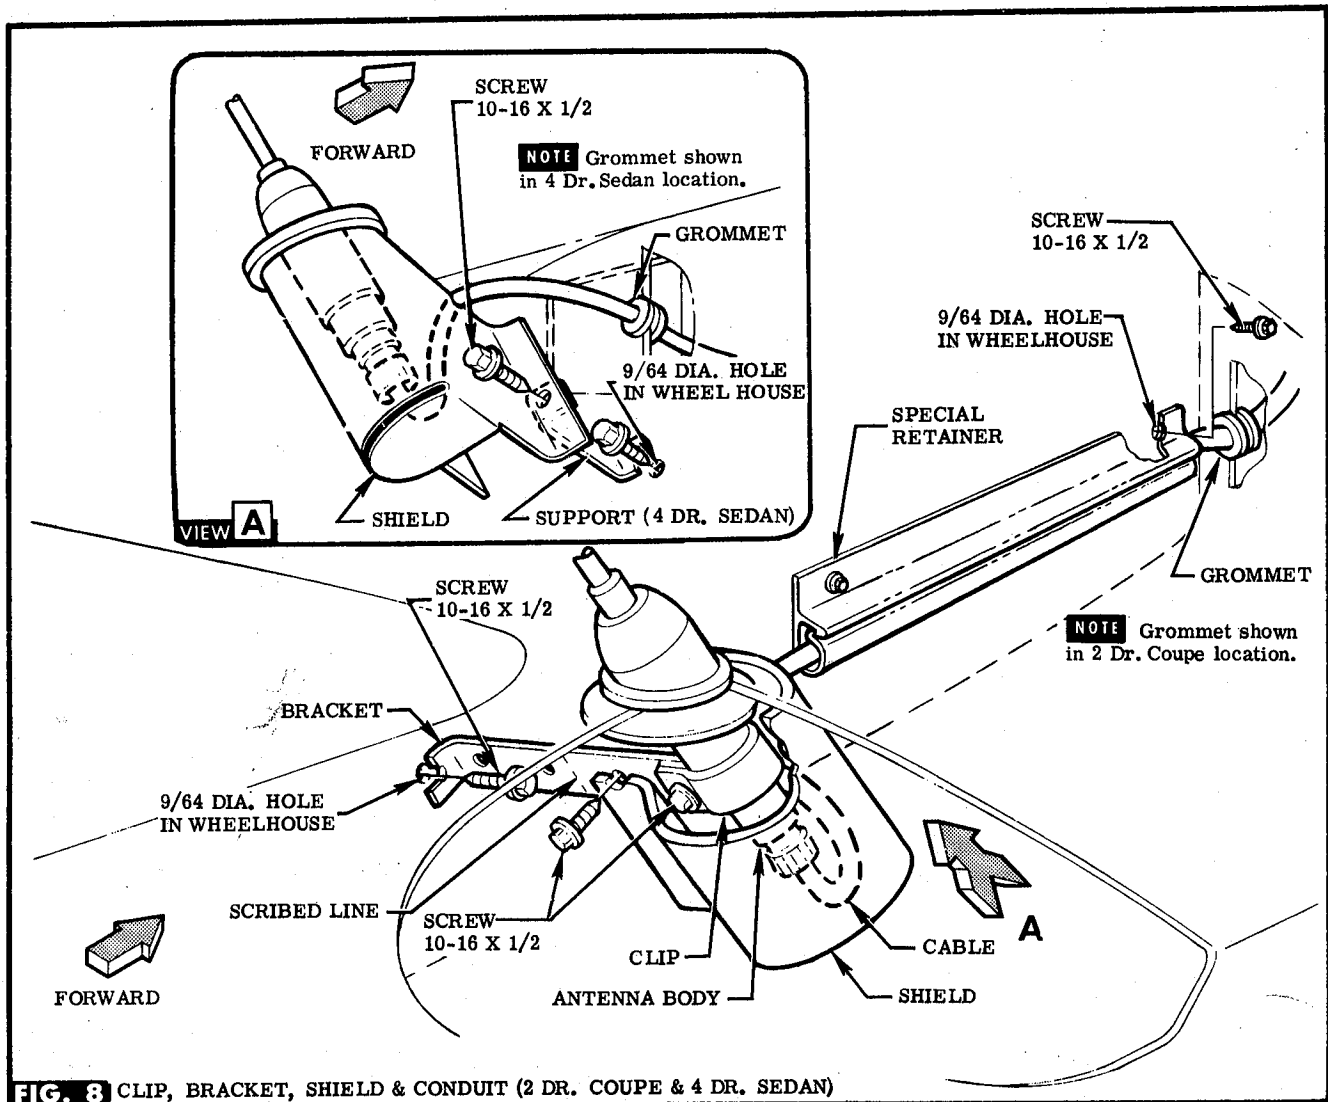

FIG. 8 CLIP, BRACKET, SHIELD & CONDUIT (2 DR. COUPE & 4 DR. SEDAN)
STEP 14 (4 DR. SEDAN) POSITION CLIP AROUND ANTENNA BODY. LOOSELY ATTACH BRACKET TO CLIP & SHIELD TO BRACKET WITH SCREWS. SEE FIG. 8.
STEP 15 (2 DR. COUPE) CUT OFF BRACKET AT SCRIBED LINE, DISCARD FLAT PORTION & USING REMAINING "L" SHAPED PORTION AS BRACKET, COMPLETE STEP 14. SEE FIG. 8.
STEP 17 (2 DR. COUPE & 4 DR. SEDAN) USING BRACKET AS TEMPLATE, CENTERPUNCH & DRILL HOLE IN WHEELHOUSE. SECURE BRACKET WITH SCREWS. APPLY BODY SEALER TO HOLE IN WHEELHOUSE. SEE FIG. 8.
STEP 19 (2 DR. COUPE) ROUTE CABLE OVER RECESS IN SHIELD. OPEN RETAINER, ROUTE CABLE THRU & CLOSE RETAINER. USING RETAINER AS A TEMPLATE, CENTER-PUNCH & DRILL HOLES IN WHEELHOUSE. SECURE RETAINER WITH SCREWS. SEE FIG. 8. (4 DR. SEDAN) ROUTE CABLE OVER SHIELD & THRU GROMMET. SEE VIEW A. APPLY BODY SEALER TO GROMMET & HOLES IN WHEELHOUSE.